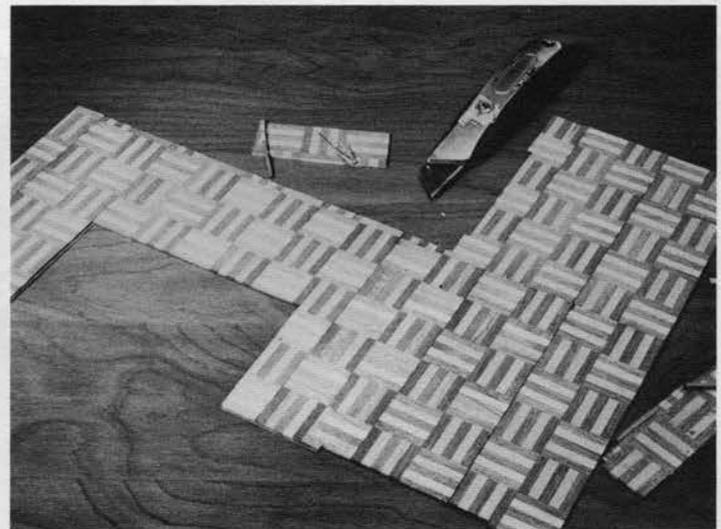
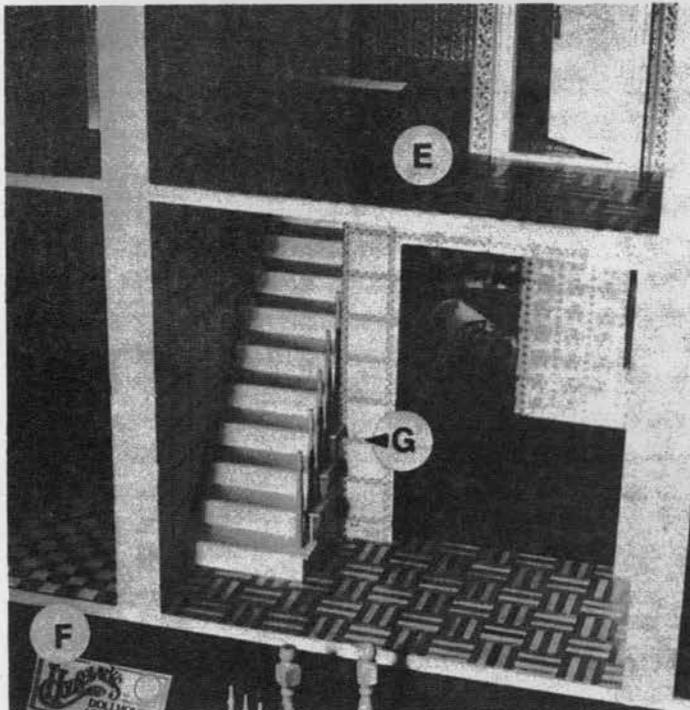

Fig. D-22
Fig. D-24
(FIGURE D-22) shows the trimmed assembly ready to varnish and install.
(FIGURE D-24) shows the parquet panel from (FIGURE D-22) glued in place, (E).